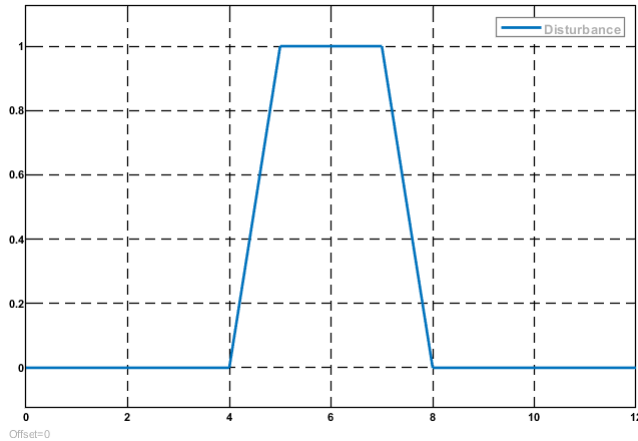

Figure 2: Disturbance Signal
- Incorporate the first disturbance signal (see Figure 2) as the disturbance d .
- Include the given disturbance (Figure 2) in the analysis.
- Evaluate the performance of the Explicit MPC controller with the given disturbance (Figure 2).
- Evaluate the performance of the explicit tube MPC controller with the given disturbance (Figure 2) .